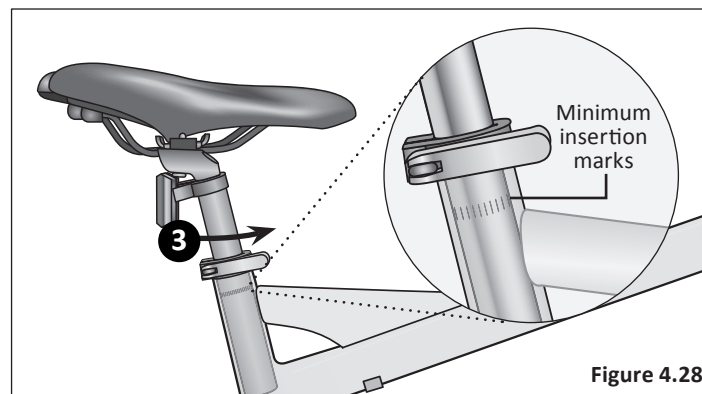

Figure 4.28
- 3 Close the quick-release lever and lock the seat in place. If there is not enough pressure to hold the seat in place open the quick-release lever and one hand on the adjustment nut, start to hand tighten the adjustment nut until you start to feel some resistance against the post clamp. **Do not** attempt to tighten by turning the quick-release lever. The quick-release lever is for closing, the adjustment nut is for adjusting the pressure. **Figure 4.28**